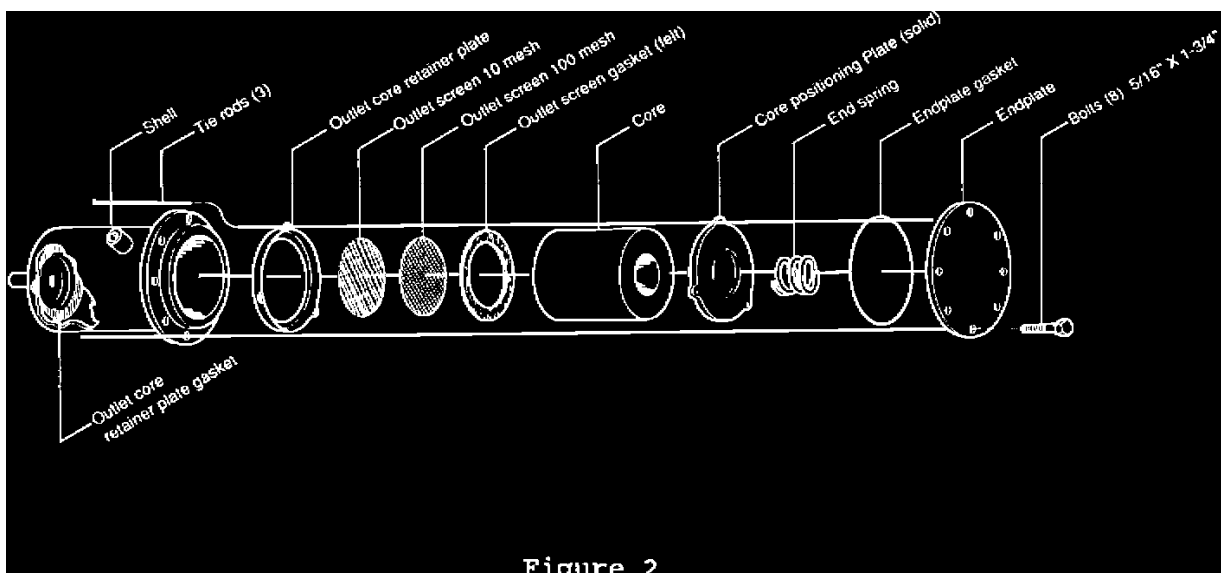

Figure 2
- ^ Reassemble the filter as shown (Figure 2).
- ^ Tighten the eight (8) bolts in a star pattern. Torque to 15 ft.lbs.